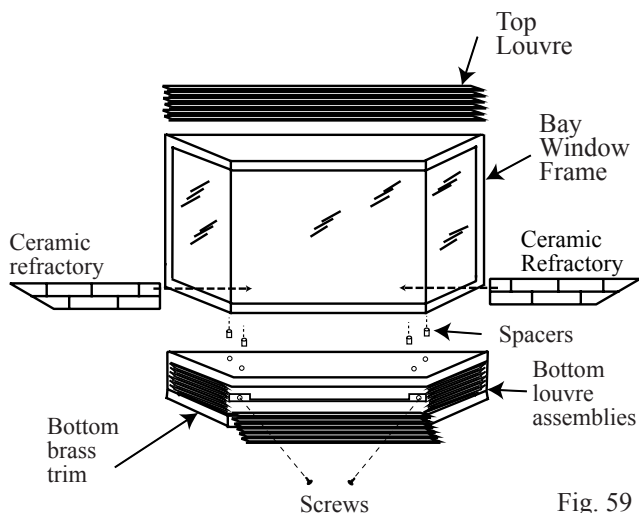

Fig. 59
5. Place the 2 pieces of ceramic refractory along the base of the bay window, Fig. 59